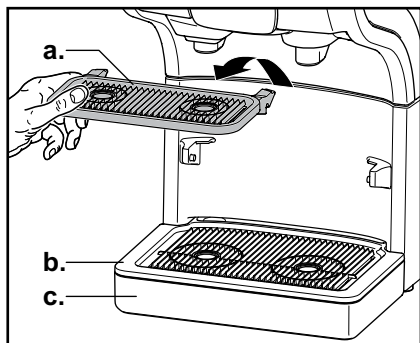

Fig. 27
2. Remove cup tray (a.), drip grid (b.), and drip tray (c.), (fig. 27)